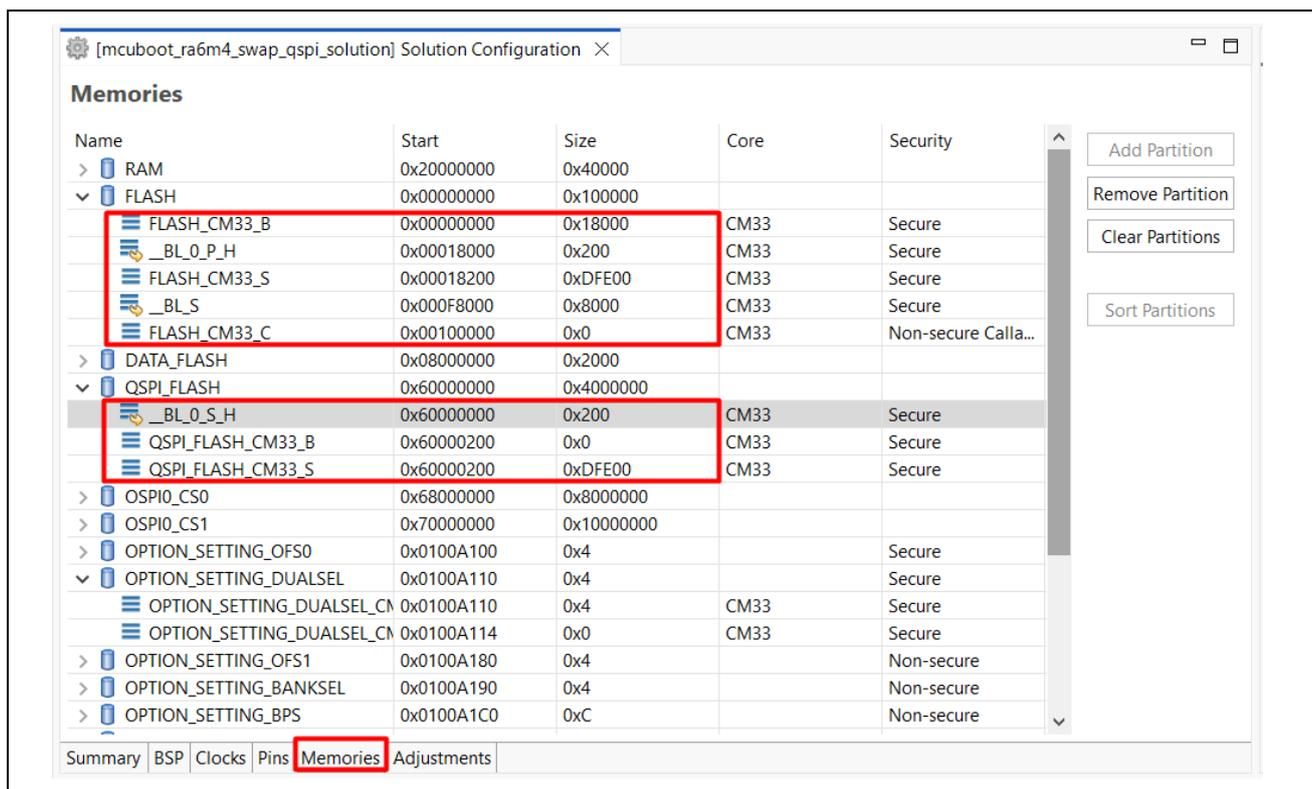

Figure 48. Memory Partition for Primary and Secondary Image Storage with External Code Flash
- When using QSPI, a much larger image is supported. Specifically, the image size can be up to twice as large as when using the internal code flash to store the image. Users can refer to Table 4 to configure the MCUboot Flash Map. They need to navigate to `mcuboot_ra6m4_swap_qspi_solution` project to adjust the memory partition, as shown in Figure 48.